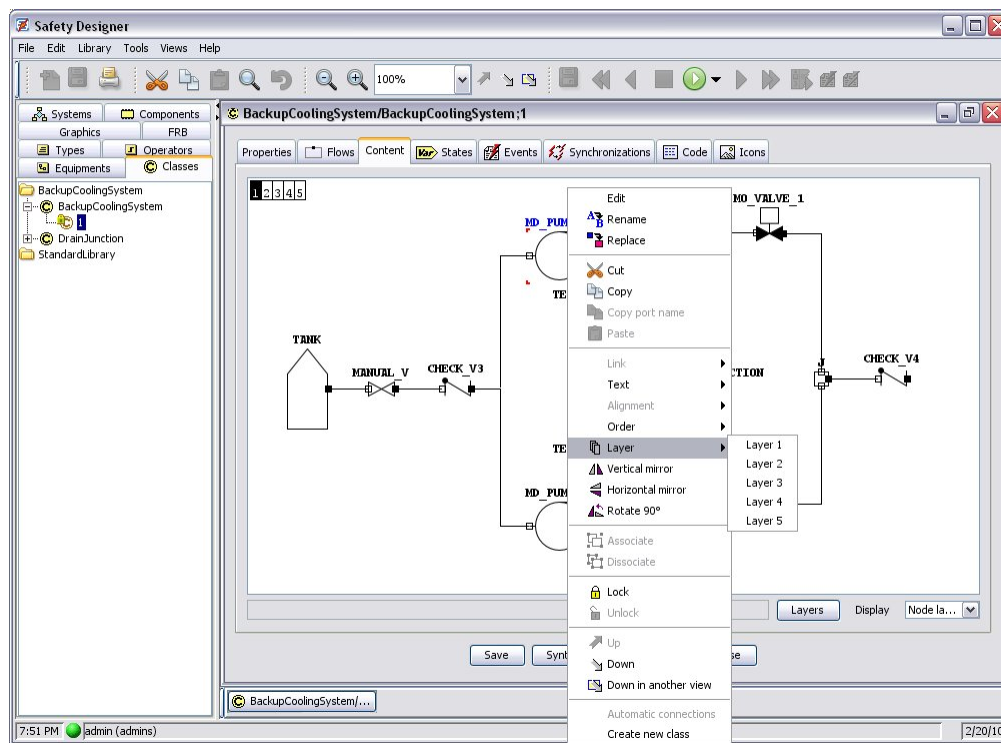

Figure 40: Layer/Layer number menu
2. Click on the “Layer” item, then click on one of the 5 layers to send the element to it (see Figure 40: Layer/Layer number menu).